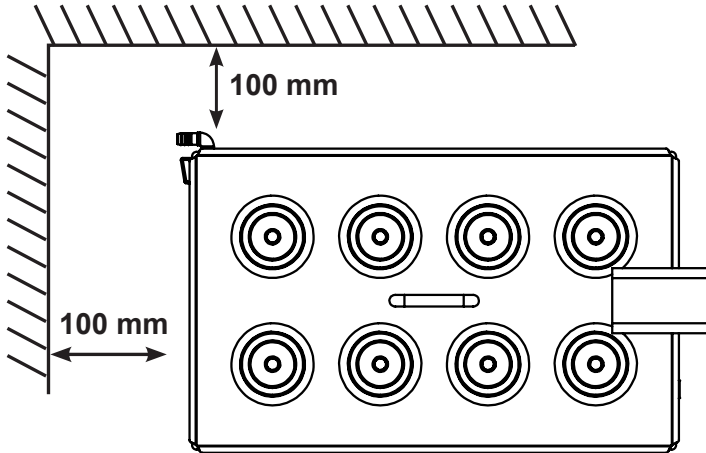

Figure: 17.1
2. Make sure that minimum 100mm gap is maintained between body and wall as shown in fig. 17.1.